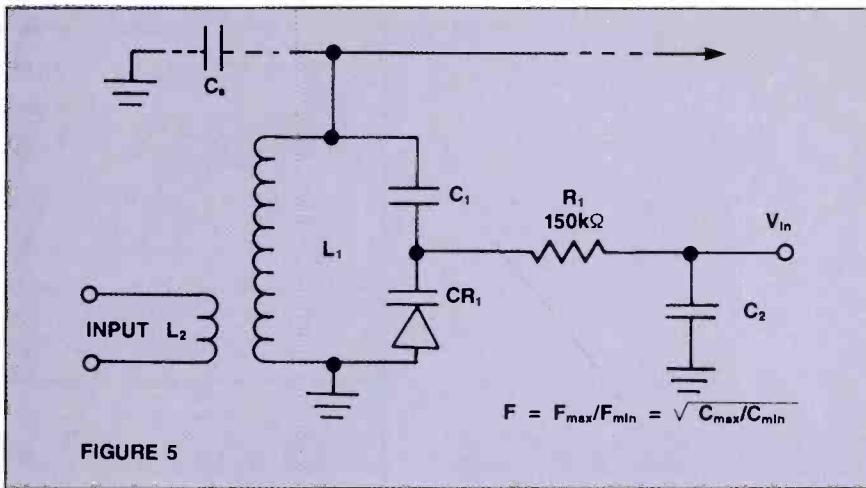

FIGURE 5
**Figure 5.** In this typical varactor-tuned LC tank circuit, the link-coupled inductor ( $L_2$ ) is used to input RF to the tank. The principal LC tank circuit consists of the main inductor ( $L_1$ ) and a capacitance made up from the series equivalent of  $C_1$  and varactor  $CR_1$ . In addition, you also must take into account the stray capacitance ( $C_s$ ) that exists in all electronic circuits. Capacitor  $C_2$  is used to filter the tuning voltage,  $V_{in}$ .
sideration. Figure 5 shows a typical varactor-tuned LC tank circuit. The link-coupled inductor ( $L_2$ ) is used to input RF to the tank when the circuit is used for RF amplifiers and, in many oscillator circuits, to output RF signal to